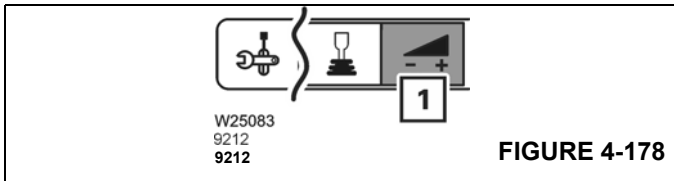

FIGURE 4-178
Select and confirm the symbol (1), (Figure 4-178).